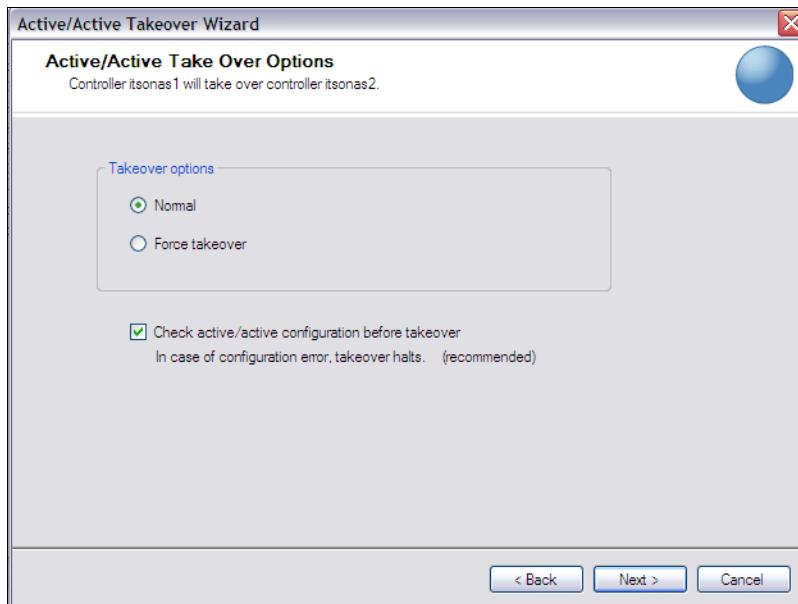

Figure 7-8 System Manager initiating takeover step 2
3. Figure 7-8 shows the Active/Active takeover wizard step 2. Click **Next** to continue.